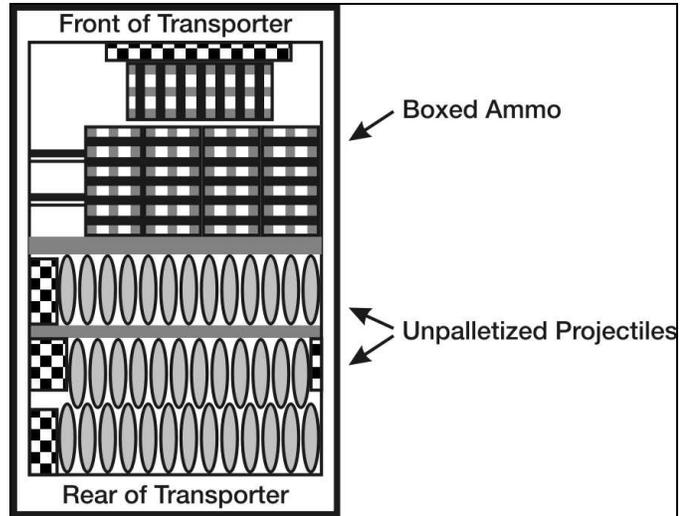

Figure 3-71. Unpalettezed Ammo Arrangement
- b. Load ammunition according to established unit loading diagram is required (Figures 3-71, 3-72, and 3-73).